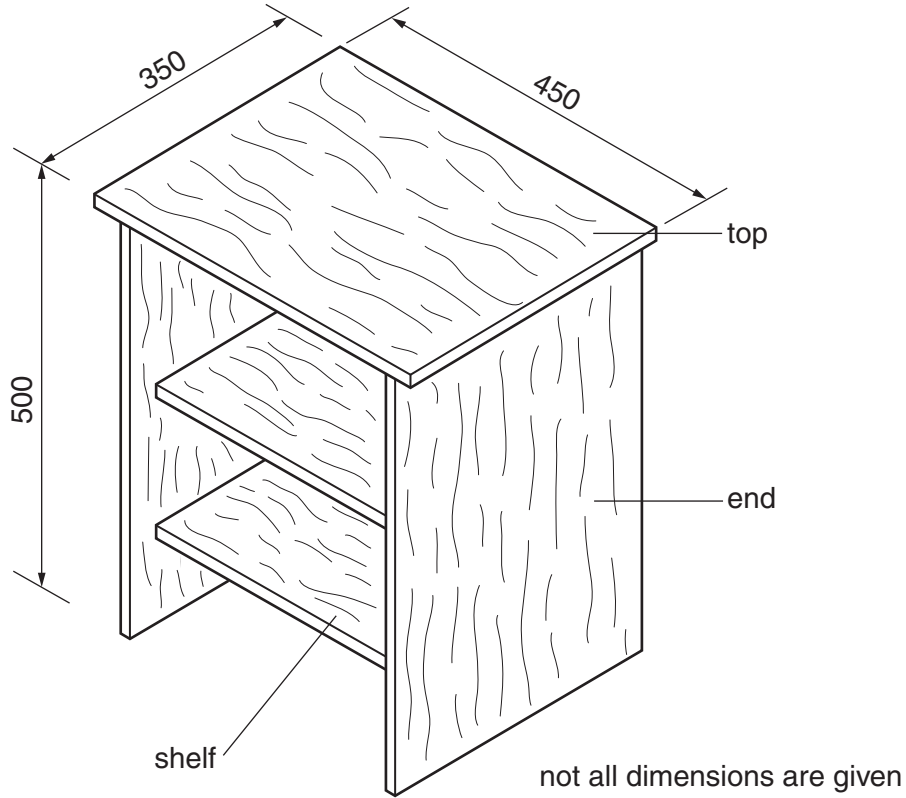

Fig. 9
- 11 Fig. 9 shows a storage unit. A printer will be placed on top of the unit, which will be positioned under a desk. The unit has shelves that will be used to store printer paper.